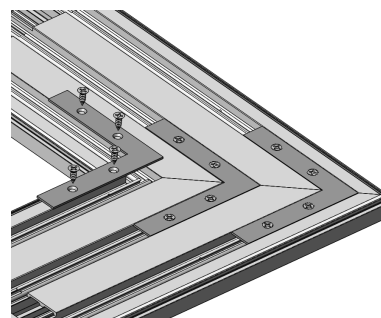

Figure 10:
1. Remove the "L-Shaped" braces and Screw #8 FHP - A - UC, 1/2", SS, Clear from the frame pack. There should be (4) screws per brace (Figure 10).